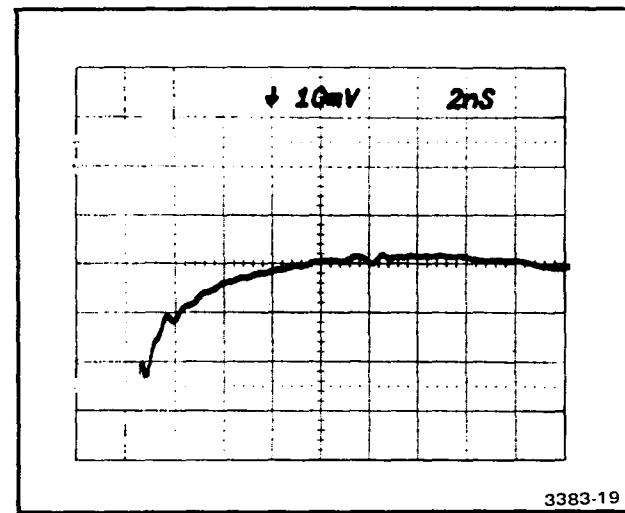

Fig. 4-9. Typical response curve as displayed on the sampling oscilloscope.
- l. Adjust—C940 for minimum aberrations with risetime  $\leq 1$  ns. A slight amount of front-corner overshoot is desirable. Refer to Fig. 4-9.